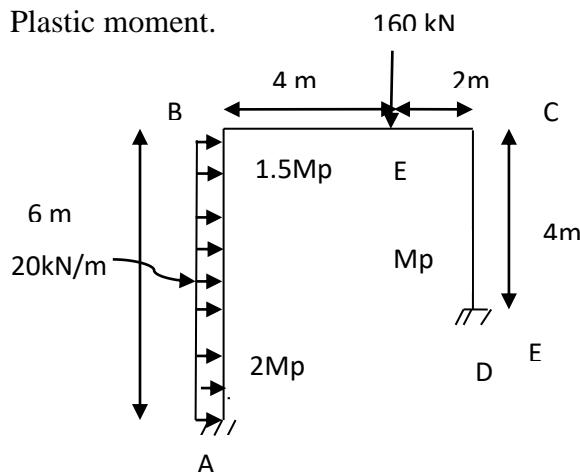

Fig 1
2. Analyse the unsymmetrical portal frame shown in Fig 1 and determine the Plastic moment.
- 2 Find the value of fully plastic moment in the portal frame as shown in figure 1. (9 Marks)